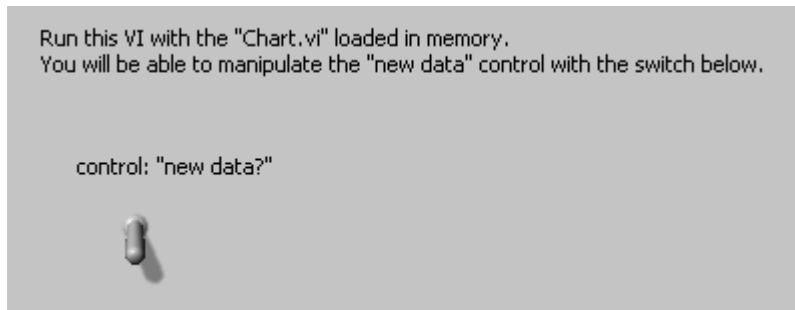

Figure 15.37
- iv. Allows the “new data?” control to be changed while running (see Figure 15.37).